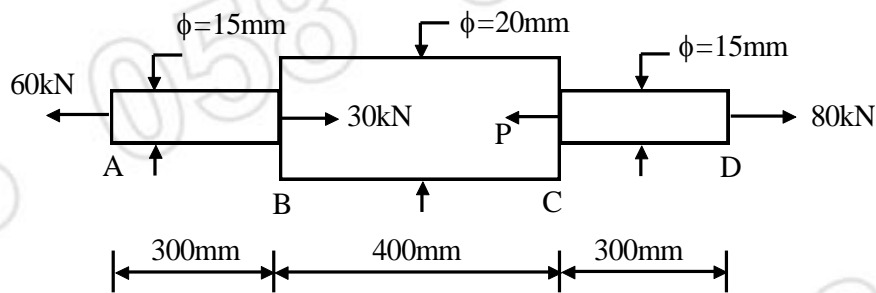

Fig. 1
- b) Find the force P acting at C in the bar shown in fig. 1. Find the extension of the bar if $E = 2 \times 10^5 \text{ MPa}$ 7